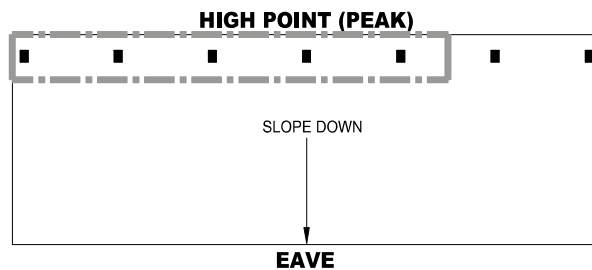

FIGURE 24A
- Calculate the most hydraulically demanding 5 contiguous DS sprinklers. See Figure 24A.